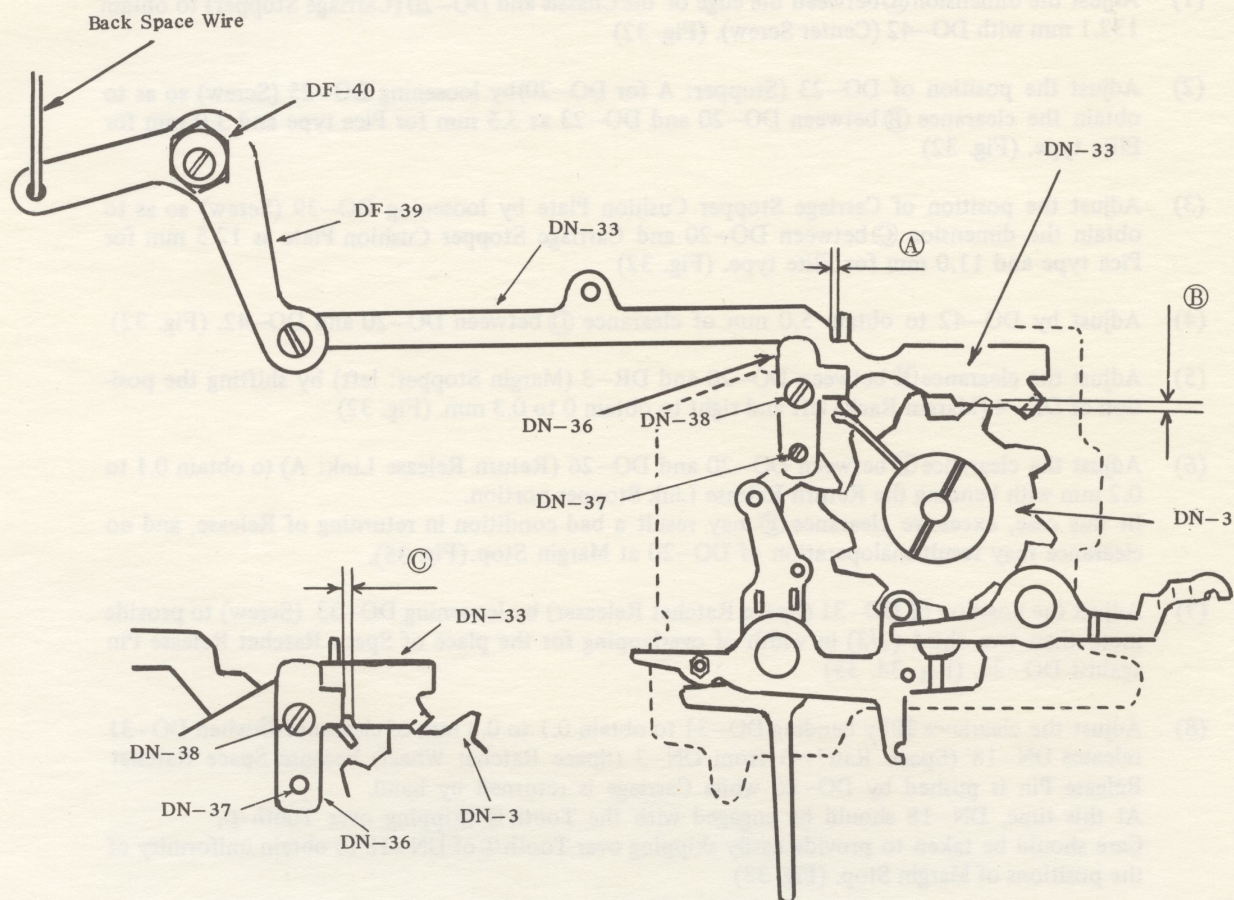

Fig. 31
- (1) Adjust the clearance ① between DN-33 (Dog Shelf Holder Unit) at the original position and DN-36 (Guide for DN-33) to provide less than 0.5 mm by bending Back Space Wire (rear). (Fig. 31)
- (2) To obtain 0.2 to 0.5 mm of engagement ② between DN-33 and DN-3 (Space Ratchet Wheel), set DF-40 (Eccentric Collar) to place its wider portion at the top position or slightly right side, and furthermore set DN-36 at the lowest condition with loosening DN-37 (Back Space Crank Front) and DN-38 (Screw). (Fig. 31)
- (3) Adjust momentum of DF-33 (Dog Shelf Holder) by DD-25 (Adjusting Screw) so that the movement is accomplished remaining 0.2 to 0.5 mm of clearance ③ between DN-33 and DN-36 when operate DN-33 by pushing DB-46 (Back Space Key) with rotating DD-27 (Snatch Roll) by hand.